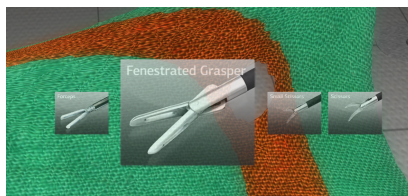

Figure 3.2 Instrument icons in the software
- Press the button on the control unit (handle) and find a list of instruments displayed on the screen. (Figure 3.2);